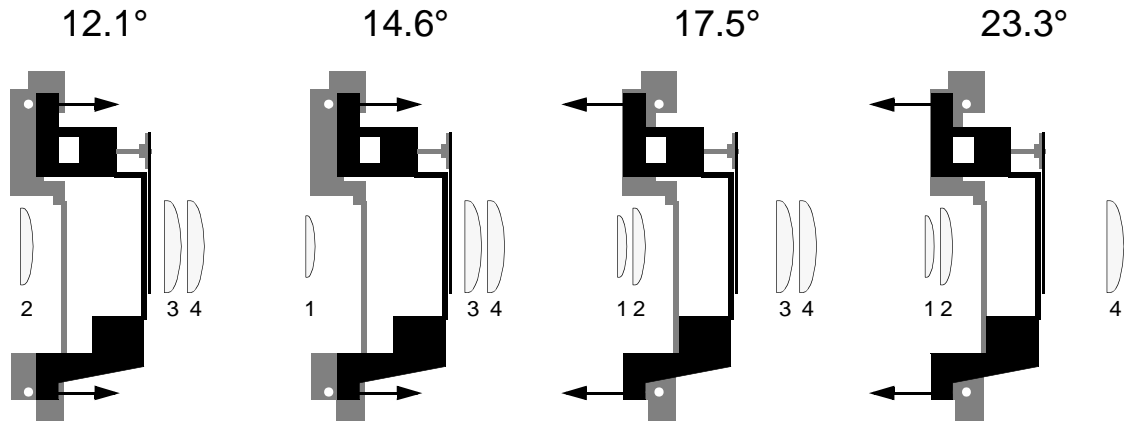

Figure 9: MAC 250 optical configurations
4. Move the dimmer module to the forward or rear position as indicated in Figure 9. Make sure as you position the module that the bottom sits between the guide pins in the bottom shell. Pull the locking pins up and then snap them down to lock.